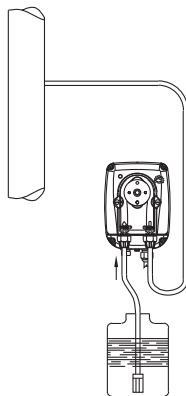

Fig. 5
- c. - Locate the pump as shown in fig. 5 bearing in mind that it may be installed either below or above the level of the liquid to be dosed, though the level difference should not exceed 2 meters. In case of liquids that generate aggressive vapours, **don't** install the pump above the storage tank unless the latter is ermetically sealed.